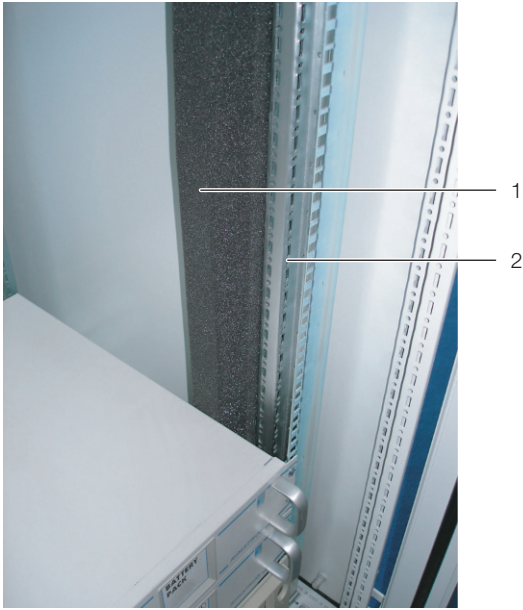

Fig. 14: Foam strip on a server rack upright
- Fasten the wider (Model No. 3301.370 / 3301.320) of the two foam strips from the LCP DX accessories onto one of the front uprights of the server rack from the outside (fig. 14). Make sure to install this strip on the side of the server enclosure onto which the LCP DX is to be bayed.
- **If you are only baying the LCP DX on one side:** Fasten the narrower (Model No. 3301.380 / 3301.390) of the two foam strips from the LCP DX accessories onto one of the front uprights of the server rack from the outside (fig. 14). Make sure to install this strip on the side of the server enclosure which will again be sealed by a side panel.